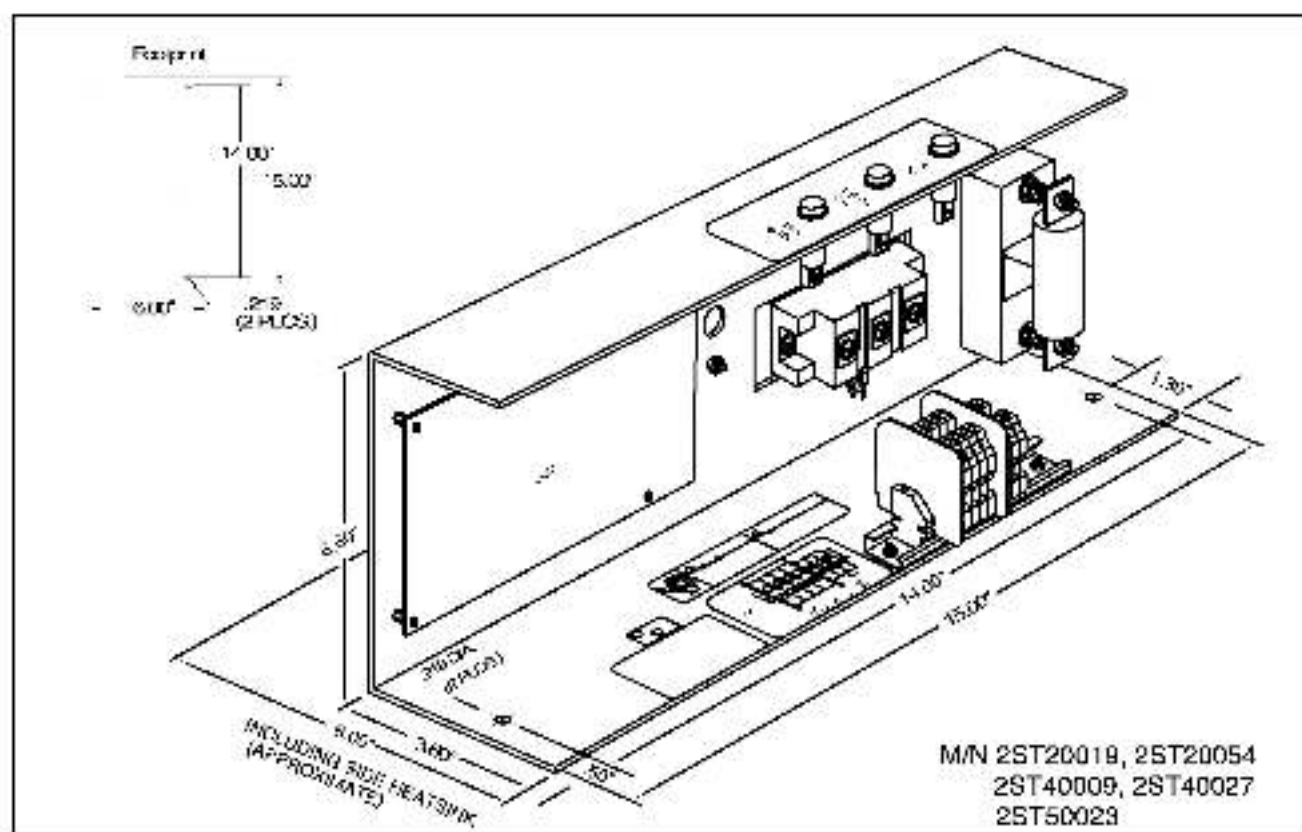
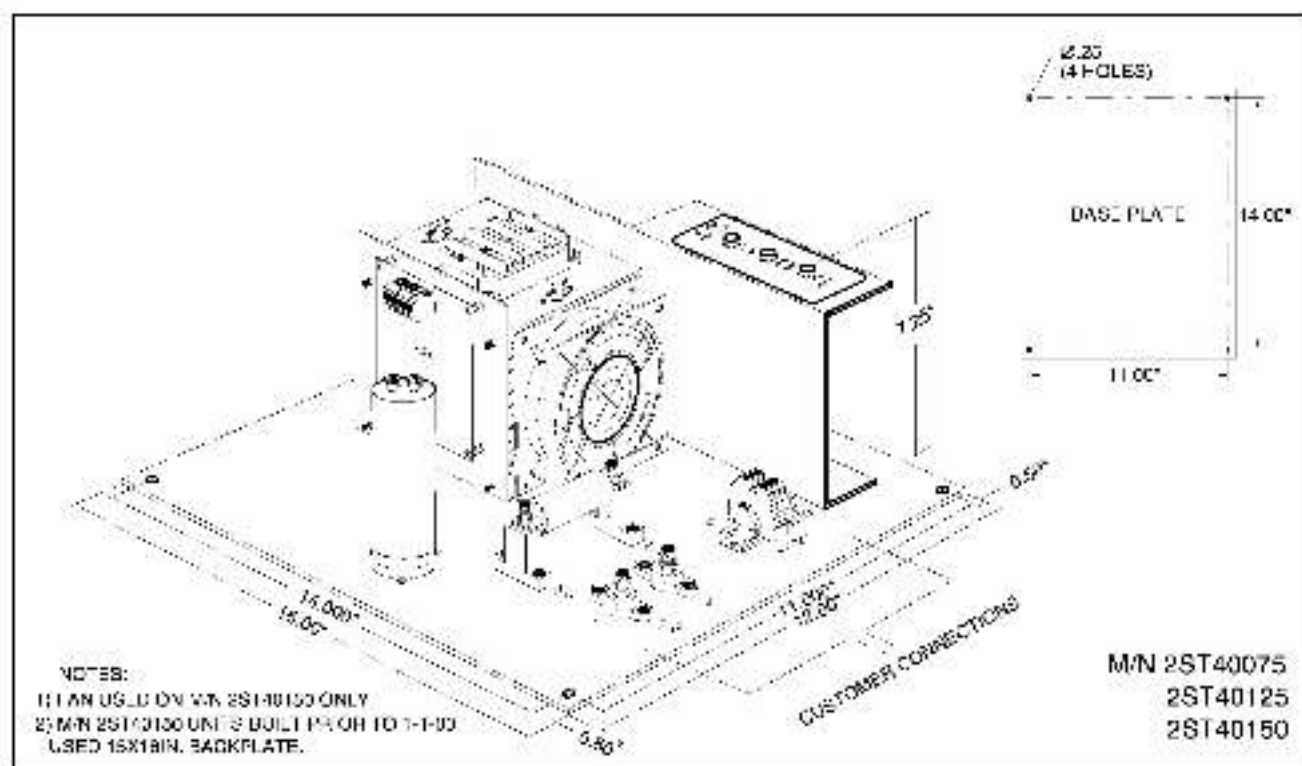

Figure 4 – Transistor Braking Module Dimensions - Style A (Open Enclosure)
Figure 5 – Transistor Braking Module Dimensions - Style C (Open Enclosure)
- Step 6. Mount the Braking Unit vertically, with the fan at the bottom (a fan is standard on the 150 A to 300 A units). Refer to figure 4 (style A), figure 5 (style E), or figure 6 (style F) for mounting dimensions. Mounting hardware is not provided.